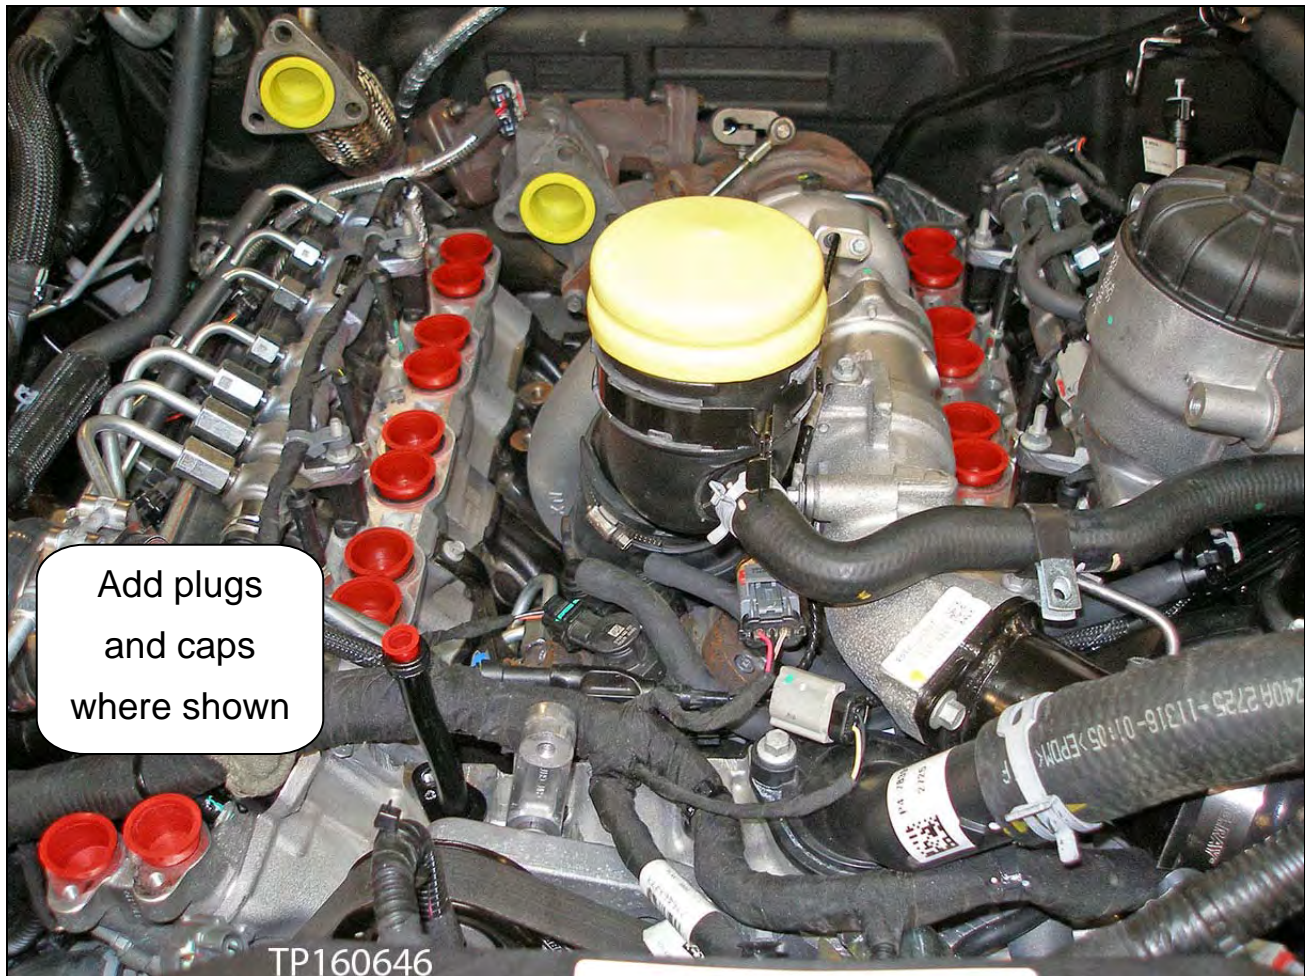

Figure 40
29. Remove any remaining intake manifold gaskets, and then install plugs and caps (yellow and red colored) where shown in Figure 40.